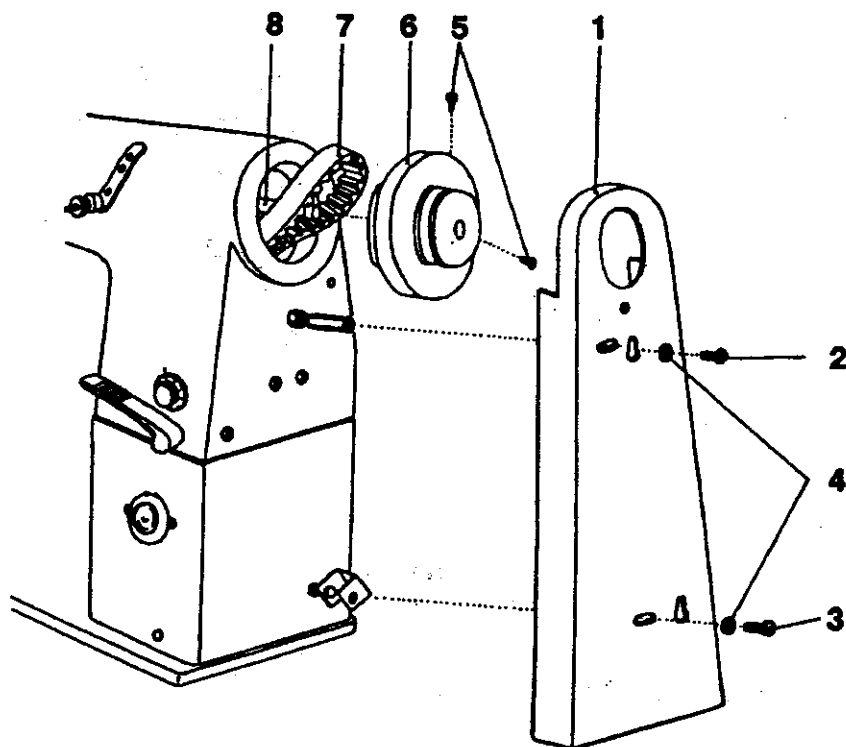

Fig. 13
14. To dismantle and mount drive belt (Fig. 13)